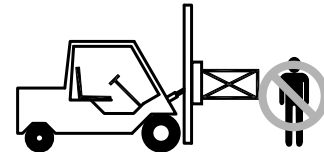

Figure 3
- Never stand in front of or beside an attachment that is being operated. Never allow another person to approach an attachment that is being operated. (Figure 3)